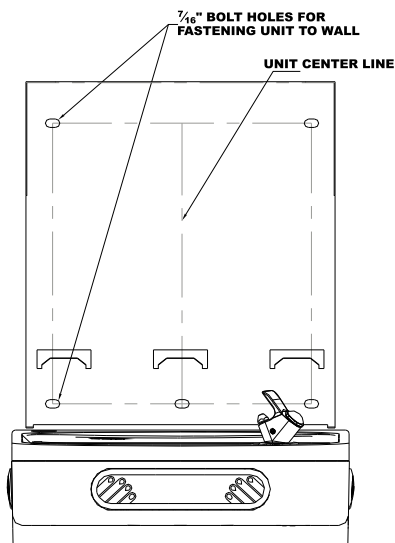

FIGURE 3
- 1) Remove two (2) mounting screws with 5/32" Allen wrench holding top cover to Bottle Filler (See Fig. 3). Remove top cover. Note do not discard mounting screws, they will be needed to reinstall top cover.